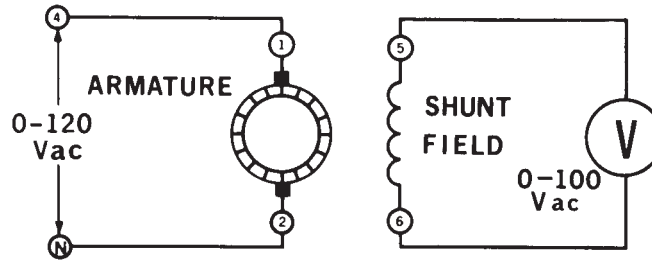

Figure 3-1.
- 1. You will now determine the neutral brush position for your DC motor by using alternating current. Using your Power Supply, AC Voltmeter and DC Motor/Generator, connect the circuit shown in Figure 3-1. Terminals 4 and N on the power supply will furnish variable 0-120 V ac as the voltage output control is advanced.